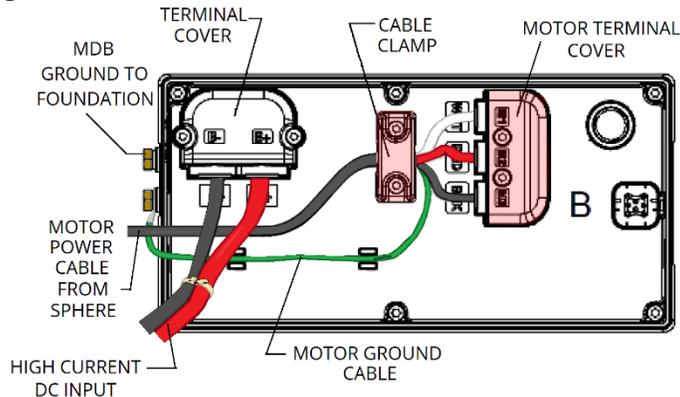

Figure 43: DC MDB exterior details
- i. **REMOVE** motor terminal cover and cable clamp from beneath MDB with T20 bit. (fig. 43)